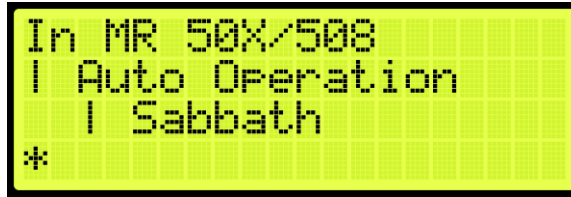

Figure 282: Input Menu
8. Scroll and select Auto Operation (See Figure 282).
10. Scroll and select Sabbath (See Figure 282).